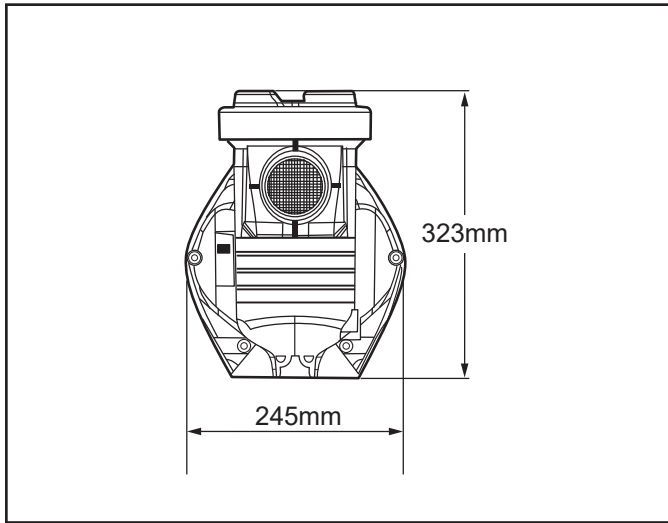

Figure 1. E-Series Pump Front Dimensions
Number of Suction Outlets Per Pump - Provide at least two (2) hydraulically-balanced suction outlets, with covers, as suction outlets for each circulating pump suction line. The centers of the suction outlets (suction outlets) on any one (1) suction line must be at least three (3) feet apart, centre to centre. See Figure 1.
The system **must** be built to include at least two (2) suction outlets (drains) connected to the pump whenever the pump is running. However, if two (2) suction outlets run into a single suction line, the single suction line may be equipped with a valve that will shut off both suction outlets from the pump. The system shall be constructed such that it shall not allow for separate or independent shutoff or isolation of each drain. See Figure 1.